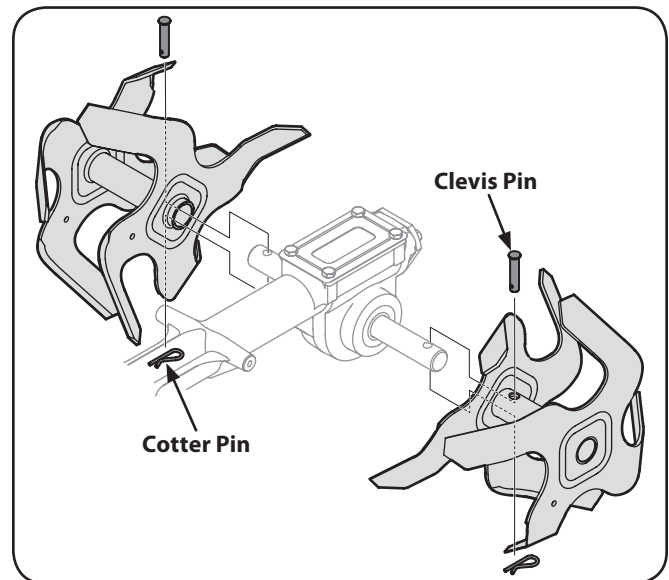

Figure 7-6
- To remove a tine assembly, simply remove the cotter pin securing the clevis pin as seen in Fig. 7-6. Remove the clevis pin and slide the assembly to the outside of the unit and off of the tine shaft.